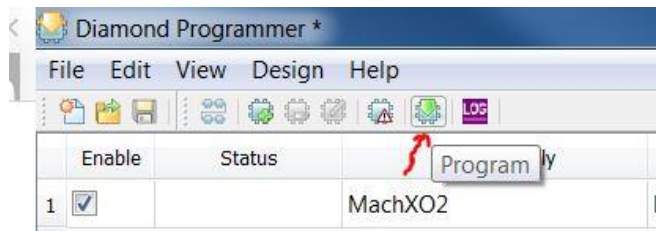

Figure 3.3. Diamond Programmer - Program Tool
- In the menu bar, click **Design > Program** or click on the **Program** tool icon shown in Figure 3.3 to re-program the LPTM21L with the factory default quick start design.